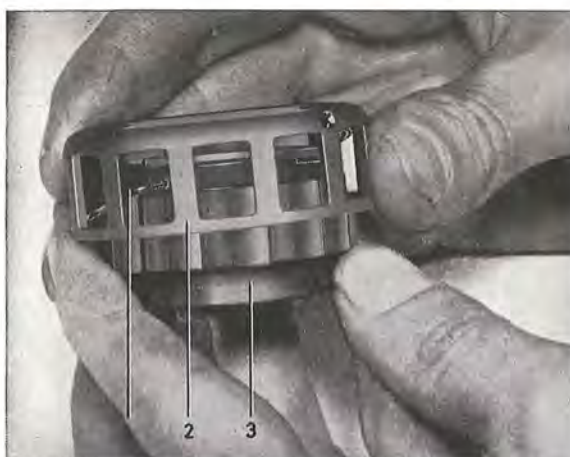

Fig. 4-51. Assembling the uni-directional clutch, I
5. Assemble the uni-directional clutch, spring and roller cage, see Fig. 4-51. Turn the roller cage clockwise as far as it will go and lock it in this position with a keys as shown in Fig. 4-52. Place in the rollers. Tie a piece of rubber band or string round the rollers.